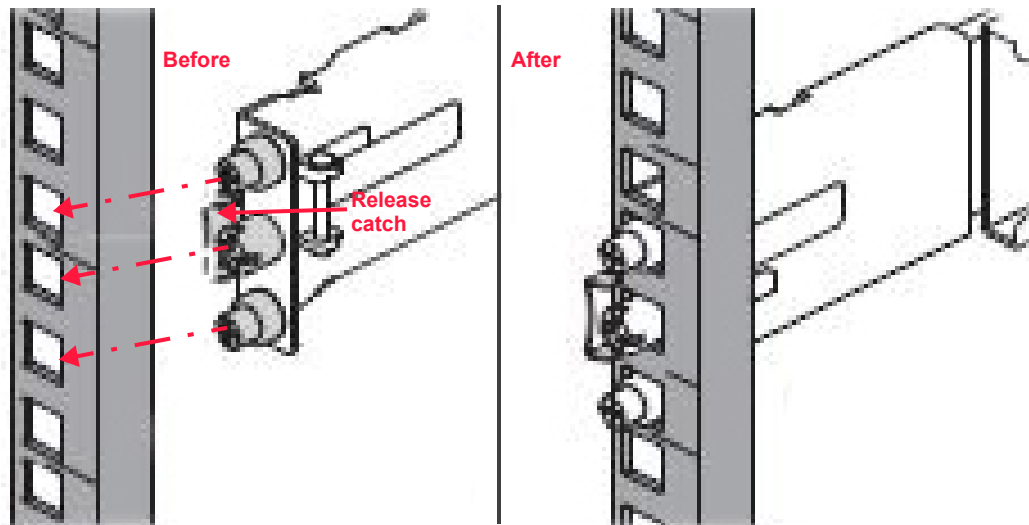

Figure 2.17 Install the front bracket
5. Push and hold the release catch outward (see Figure 2.17) and insert the left front bracket mounting screws into the left front rack post holes. Verify the rail is level.
6. Once the mounting screws are fully inserted into the rack post holes, release the catch to secure the rail to the post. Refer to the “After” image in Figure 2.17 for an illustration of a properly installed left front cabinet member bracket.